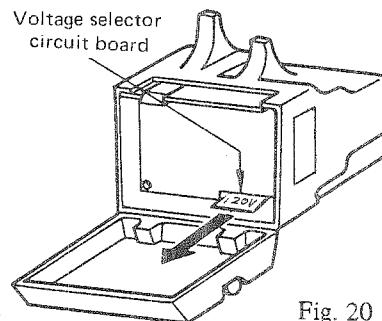

Fig. 20
- ① Turn the power switch OFF.
- ② Remove the cover retaining screw from the PSC box, and open the PSC box cover.
- ③ Draw voltage selector circuit board A out in the direction of the arrow. (In Fig. 20, the line voltage is set for 120V.)